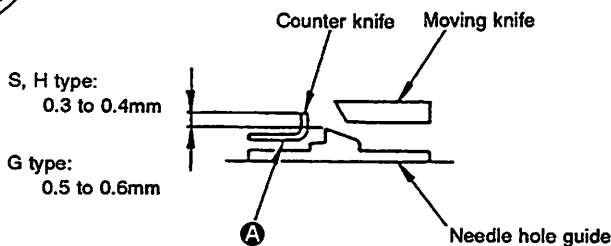

Fig. 5-14-2
- A. If the height of the needle hole guide with respect to the counter knife blade is not within 0.3 to 0.4 for S or H type model of sewing machine or 0.5 to 0.6 mm for G type one, pry portion (A) (Fig. 5-14-2) out using a screwdriver or the like to adjust the height of the needle hole guide with respect to the counter knife blade to the correct height. (At this time, make sure that the blade point is in parallel to the throat plate mounting surface.)